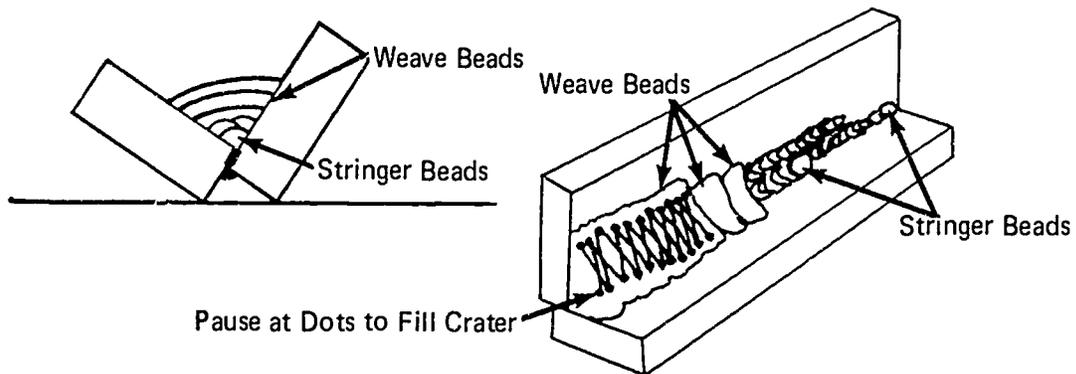

FIGURE 5
- J. Fill remainder of joint with three weave beads (Figure 5)